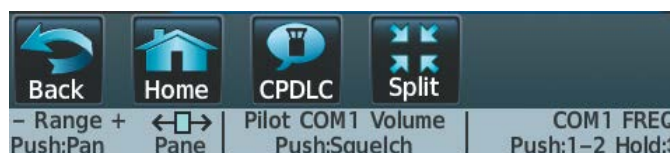

Figure 4-78 CPDLC Button on the Button Bar
- 3) Touch a message dialog box to display the message thread, as seen in Figure 4-78.